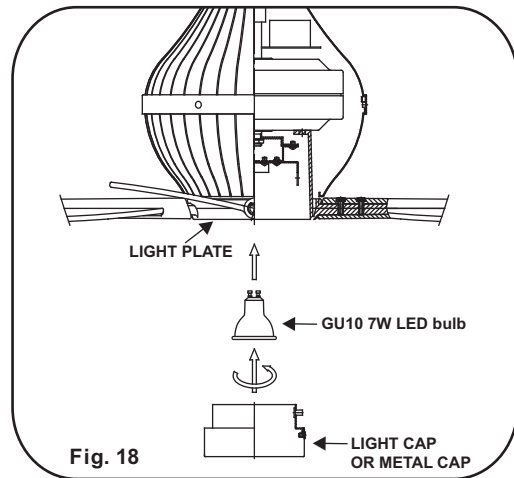

Fig. 18
Step 1. Install GU10 7W LED bulb. (Fig. 18).
Step 2. Install the light cap (with glass lens) or metal cap by carefully turning it clockwise until snug. **DO NOT OVERTIGHTEN.** (Fig. 18)